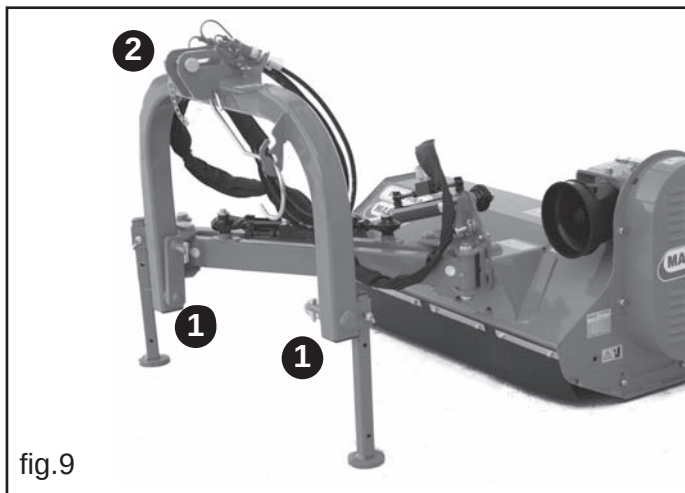
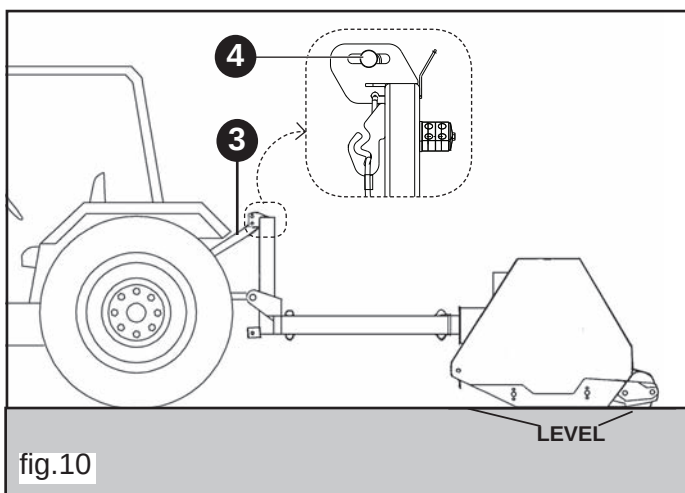

fig.9
fig.10
- 1) Hook the lifter bars onto the pins provided (1, fig.9)
- 2) Connect the third upper point (2, fig.9); the pin will be blocked with the appropriate split pin; use the adjusting tie rod (3, fig.10) to keep the machine perpendicular to the ground (fig.10). To use the machine in the correct way, the rod of the tractor's top link must be regulated so that the pin is in the center of the slot when the machine is perfectly horizontal. (4 fig.10)